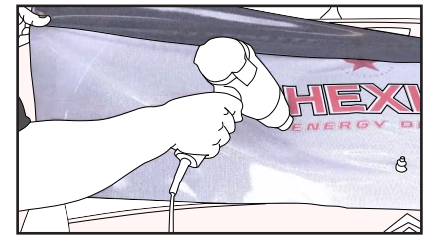

Figure 16
- › Slightly heat the compound so that the film can be stretched a little bit again. (FIG. 16)